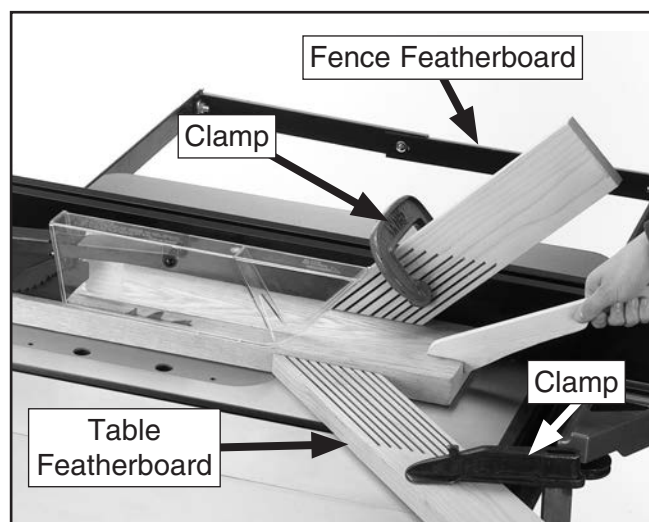

Figure 79. Example of featherboards secured with clamps.
3. Place a featherboard on table away from blade so all fingers point forward and contact workpiece (see **Figure 79**).